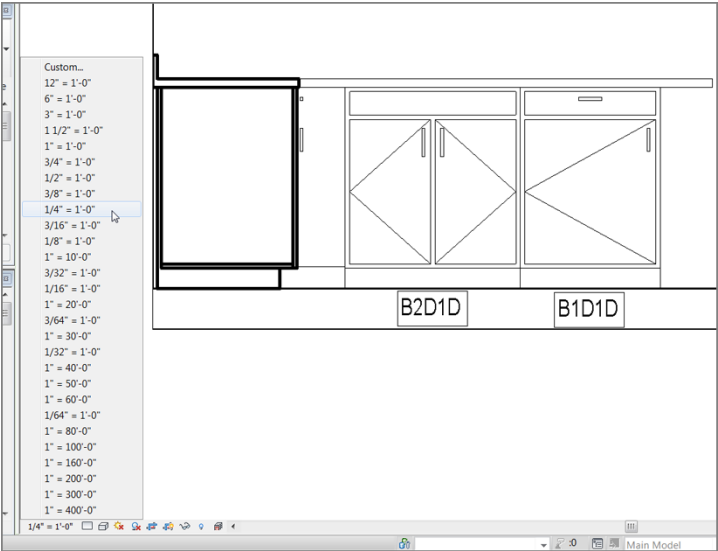

FIGURE 11.83: Changing the scale, and adding a second tag to the base cabinets
1. On the View Control toolbar, change the scale from 1/8" = 1'-0" (1:100mm) to 1/4" = 1'-0" (1:50mm), as shown in Figure 11.83.
4. Call it B1D1D (see Figure 11.83).